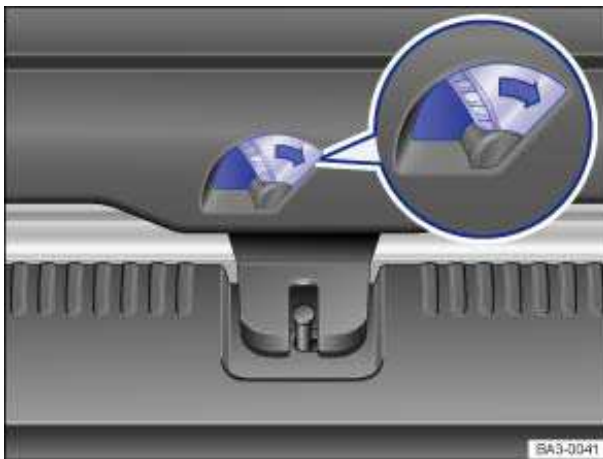

Fig. 198 Inside the luggage compartment: Unlocking the luggage compartment lid.
- Push the lever in the direction of the arrow ⇒ fig. 198. The luggage compartment lid opens automatically. At temperatures under +32 °F (0 °C), you may have to push the luggage compartment lid open manually.